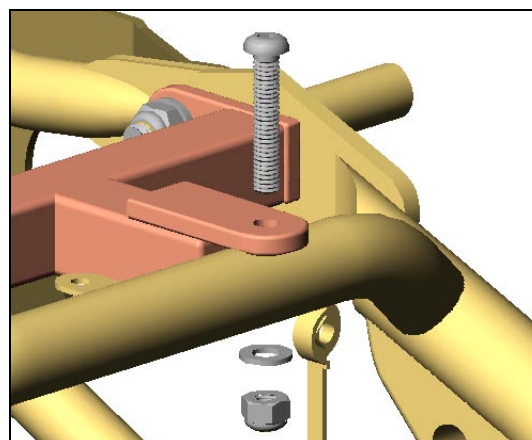

Figure 23
- c. Using the hole in the forward tab of the installed Center Shock Mount as a guide, drill a 5/16" hole through the cross tube of the vehicle frame. Figure 23
- d. Install hardware as shown. Figure 23